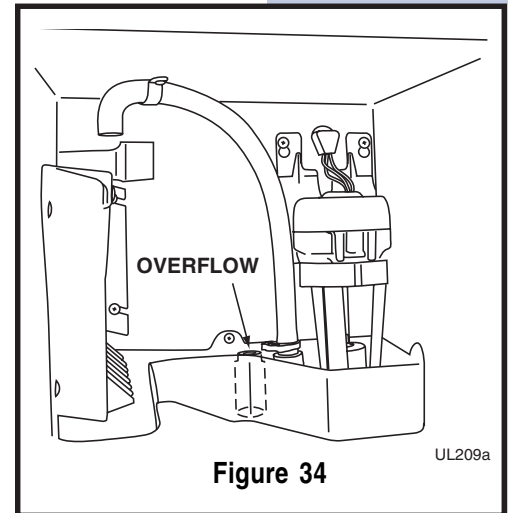

Figure 34
- 4 Remove the overflow tube by lifting it up while using a slight back and forth motion to loosen it from the drain hole (see **Figure 34**). The water in the reservoir will flow down the drain.
- 7 Drain water from the water trough and drain line by removing the overflow tube (see **Figure 34**).